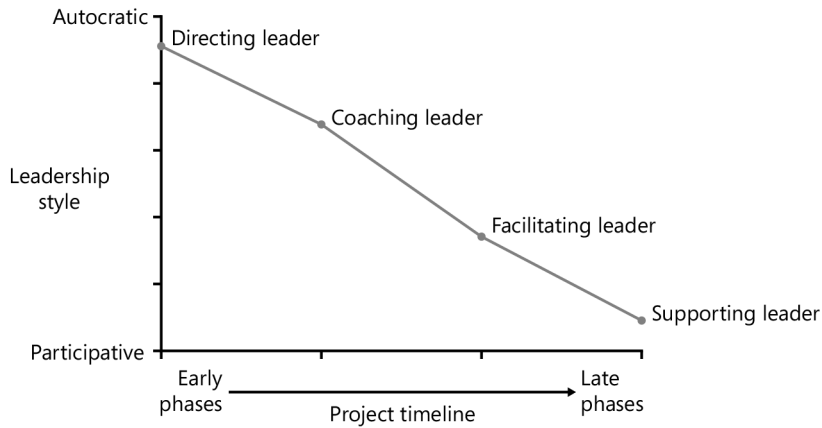

FIGURE 7-7 Different types of project leadership are required at different points of a project.
1. Leadership is the purposeful influencing of followers. A leader must have a clear vision of where she wants to take the followers. In relation to a project, a vision can be a successful project in terms of time, cost, and quality. Because leadership is essentially a relationship between the leader and follower, it must be built like any other human relationship, upon respect and trust, which are key elements of effective leadership. Project managers are responsible for developing their own leadership abilities, and must realize that different situations call for different leadership styles or the demonstration of a different set of leadership competencies. Because leadership is situational, the type of leadership required over time can change. Figure 7-7 shows how different leadership styles can change from a more autocratic style at the beginning of a project to a more participatory, or supporting, style of leadership toward the end of the project. This model indicates that a leader trusts the team members and gives away some of her power. Both trust and the ability to give away power are important attributes of a good leader.